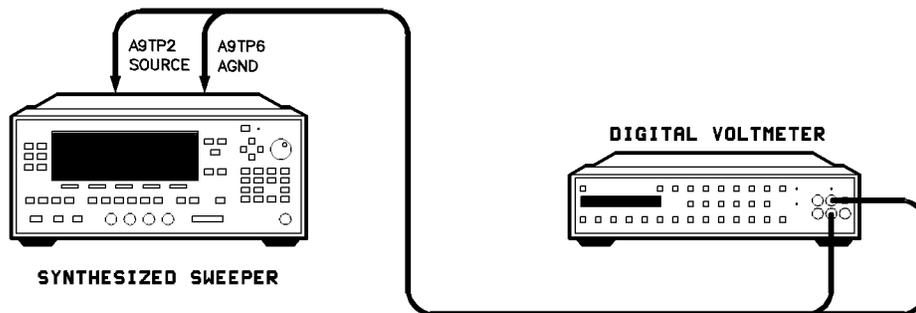

Figure 3-21. Low Power SRD Bias Adjustment Setup
1. Connect the equipment as shown in Figure 3-21. Preset all instruments and let them warm up for at least one hour.